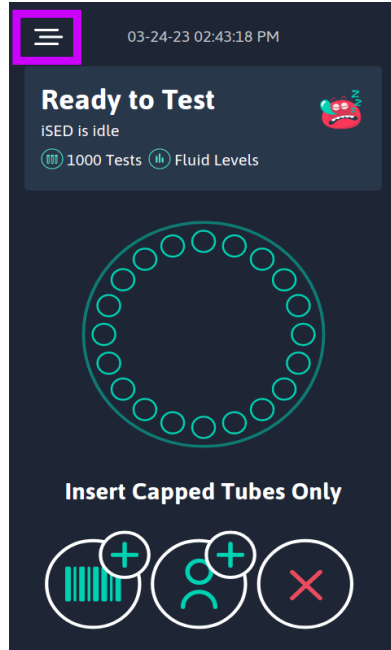

Figure 1
1. Press the “Burger” icon on top left side of screen as highlighted in pink in Figure 1.